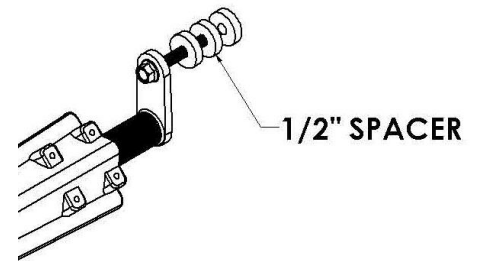

Figure 5
C. Spacers are supplied to bring the steel swivel away from the frame in the event of any obstructions (Figure 5).